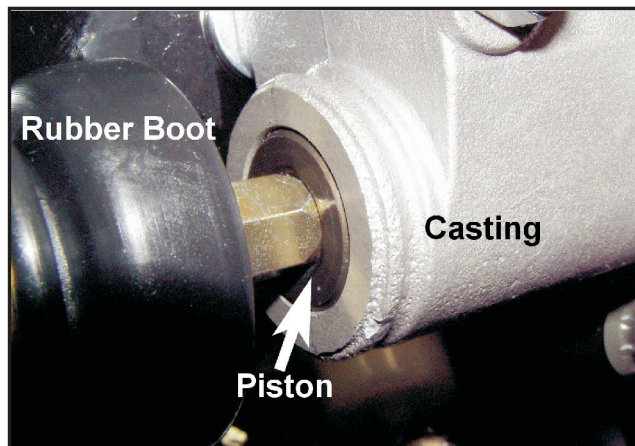

Figure 7-15. Location of piston.
2. Pull back the rubber boot at both master cylinder plunger pins and check each piston location relative to the face of the master cylinder casting as illustrated in Figure 7-15. Use a straight edge against the face of the casting to ensure